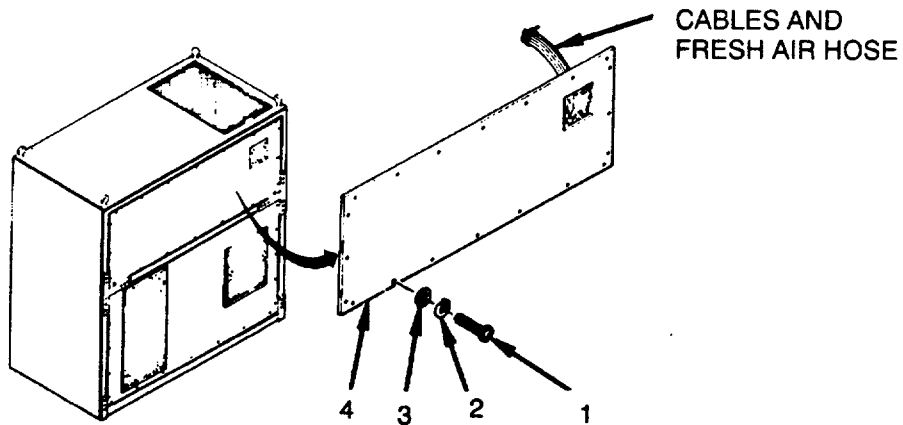

Figure 4-10. Rear Evaporator Panel Removal
- h. Open Rear Evaporator Panel. Remove 10 screws (1), lockwashers (2), flat washers (3), and open panel (4). Support panel with cables and fresh air hose connected (see Figure 4-10).